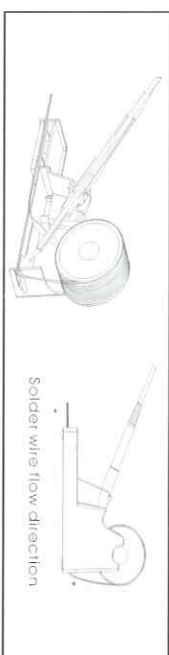

Figure 1. Soldering iron stand with solder wire holder
1. Install the solder wire to the soldering iron holder as in Figure 1.